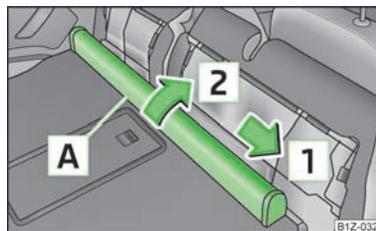

Fig. 61
- › Push the net partition housing **A** » Fig. 61 in the direction of the arrow **1** and remove it from the mounts on the rear seats in the direction of the arrow **2**.
- › Push the net partition housing in the opposite direction of the arrow **1** » Fig. 61 as far as the stop.